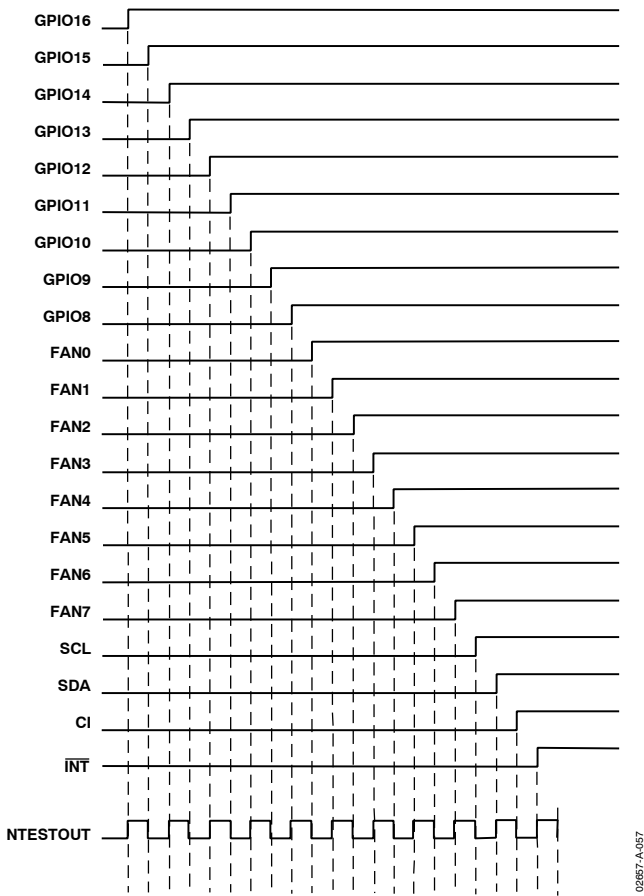

Figure 57. NAND Tree Test Taking Inputs High in Turn
1. Start with all inputs low and take them high in turn, starting with the input nearest to NTEST_OUT (GPIO16/THERM) and working back up the tree to the input furthest from NTESTOUT (INT). This should give the characteristic output pattern shown in Figure 57, with NTESTOUT toggling each time an input is taken high.